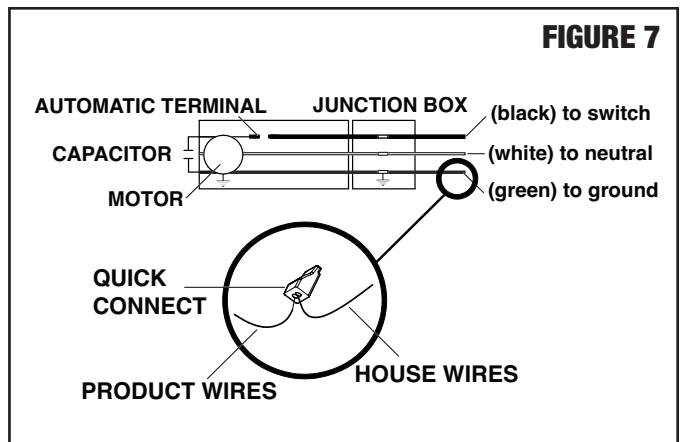

FIGURE 7
7. CONNECTING WIRING FROM UNIT TO HOUSE (FIGURE 7)